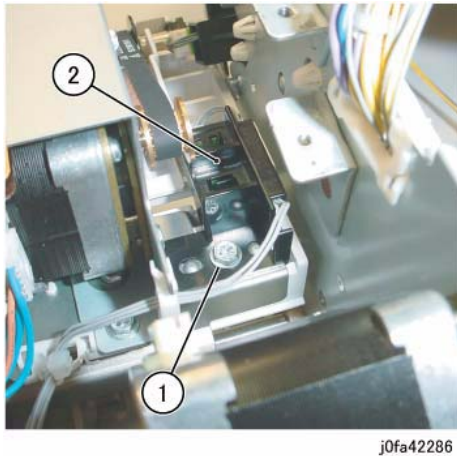

Figure 3 Removing the Front Tamper Home Sensor Assembly
10. Remove the Front Tamper Home Sensor Assembly (Figure 3):